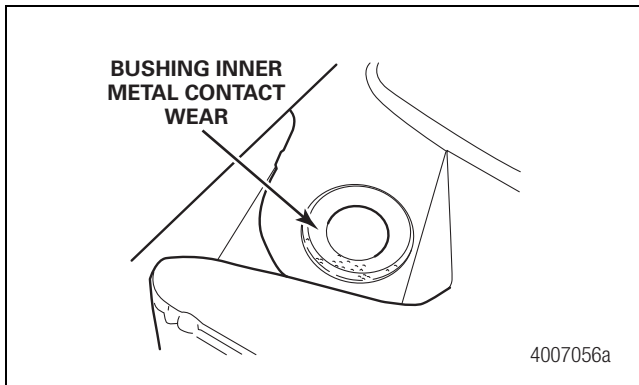

Figure 6
- B. Check the axle seat for wear at the bushing inner metal contact area. Figure 6.